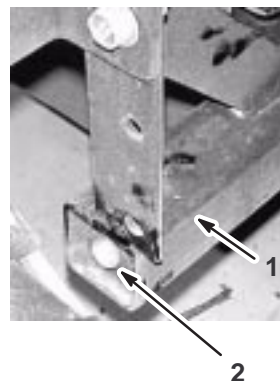

Figure 9
Note: If there is not enough clearance between the control valve and the tank, loosen the 2 bolts securing the boom frame to the vehicle and back the boom frame out until there is at least 3 inches of clearance between the control valve and the tank (Fig. 9). Tighten the bolts to secure the boom frame (it will slide in about 1-1/2 inches (4 cm) as you tighten the bolts).
3. Ensure that the control valve assembly and the tank are about 1 inch apart. If they are not, adjust the boom frame (Fig. 9).